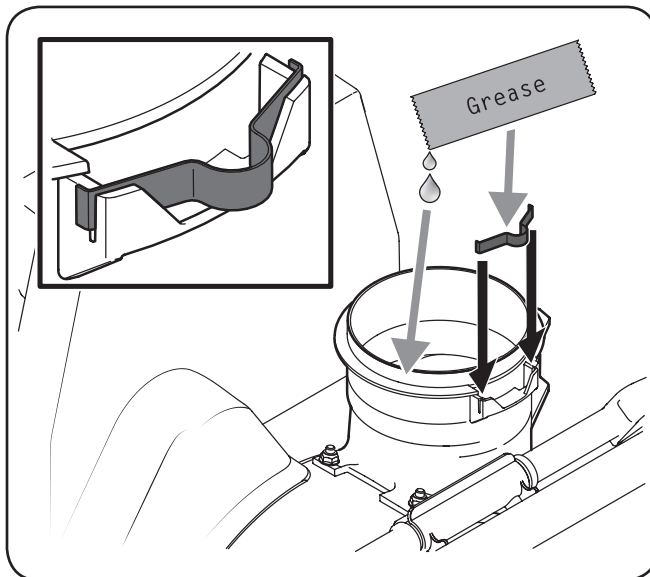

Figure 3-1
1. Install the wire spring into the discharge opening of the snow thrower by inserting both ends into the slots provided. See Figure 3-1 for proper location and orientation of the spring. The inset of Figure 3-1 shows the spring properly installed with the ends fitted into the slots provided.
NOTE: Place some of the white lithium grease provided on the wire spring and chute adapter ring prior to assembly as shown in Figure 3-1.